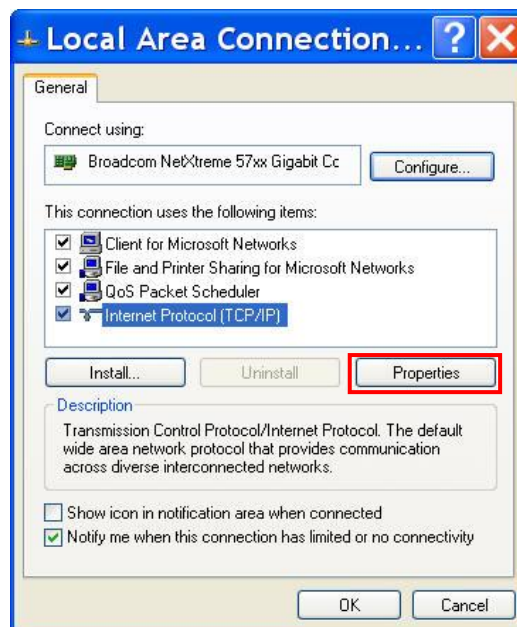

Figure 49: Local Area Connection
4. Click *Internet Protocol (TCP/IP)*. See Figure 49.